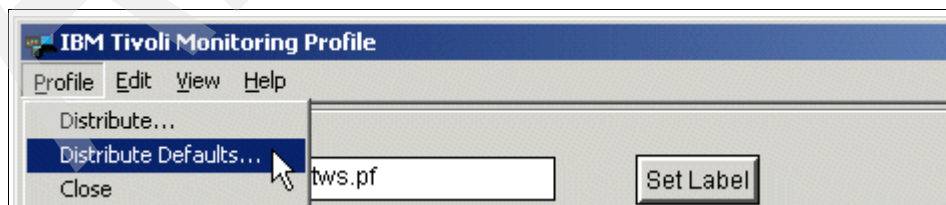

Figure 9-107 Setting distribution defaults for itm-tws.pf Tivoli Monitoring profile
9. Select **Profile** → **Distribute Defaults...** as shown in Figure 9-107.